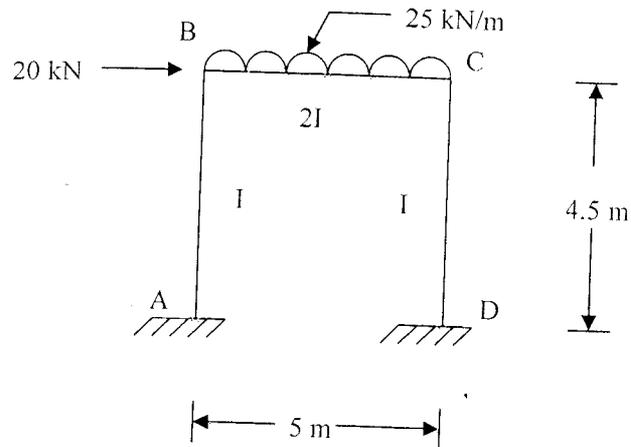

Fig. 9
15. (a) Create an input file for the analysis of a portal frame loaded as shown in fig.9. The frame is to be analysed by STAAD package.